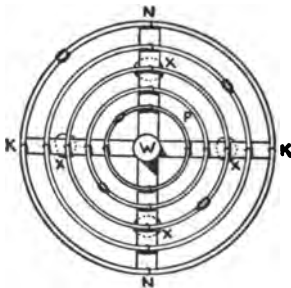

Fig. 22.
For accuracy bait-casting a target is best. The simplest form may be made as follows: Join two 1x4-inch boards in the center, as shown by KK, NN, Fig. 22, and paint them green. At their intersection attach a six-inch water-tight tin can (W), painted red. Encir-
cling this, attach to the four bars a half-inch water-tight gas-pipe ring (P) 30 inches in diameter, painted white. Four staples may be used in making it fast to the bars. Wire will catch the lures. One foot from this circle attach a similar one 4½ feet in diameter, and so on until five are in place. As all parts of the target should be just awash, with only the red bullseye showing distinctly, regulating devices are necessary. Four paint cans attached solidly to the bars underneath will serve, provided they do not leak. If the target floats too high, let a little water into the cans. Screw-top cans, are, for this reason, the handiest form. (See X, Fig. 22.)
Under the target W (Fig. 22) attach a large screw-eye, and to this make fast the center of a suitable line. Attach snap-hooks to one part of the line, say 60, 80, and 100 feet from center of target. If the 60-foot hook is made fast to the ring on the platform, the other end of the line is run through a pulley-block on a float anchored about 110 feet from the platform, then back to the platform, where it is belayed. When all contestants have finished casting at 60 feet, the 60-foot snap is cast off, the 70-foot snap attached to the ring on the platform, then, by hauling on the other end of the line, the target is moved out to 70 feet, and so on up to